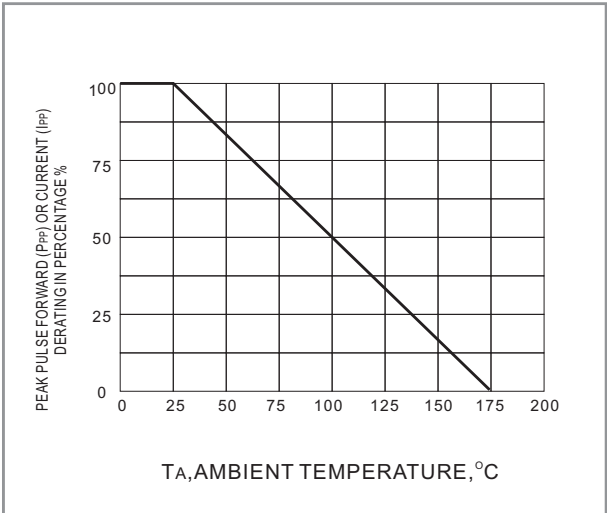
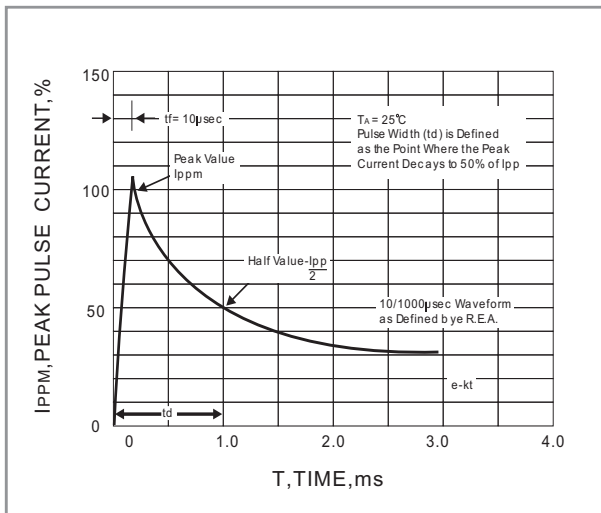

Fig. 2 PULSE DERATING CURVE
Fig. 3 PULSE WAVEFORM
1. Non-repetitive current pulse, per Fig. 3 and derated above $T_A=25^\circ\text{C}$ per Fig. 2.